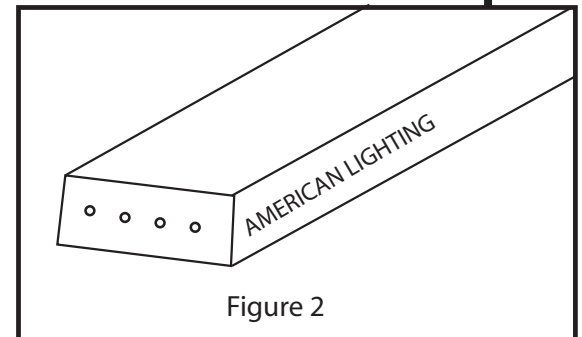

Figure 2
1. Determine which end of the LED 4-Wire is the live end. It is the end that is pre-stamped with the text (see Figure 2) "AMERICAN LIGHTING 120v DC 7.2 WATTS PER METER". For 24V product, see below.